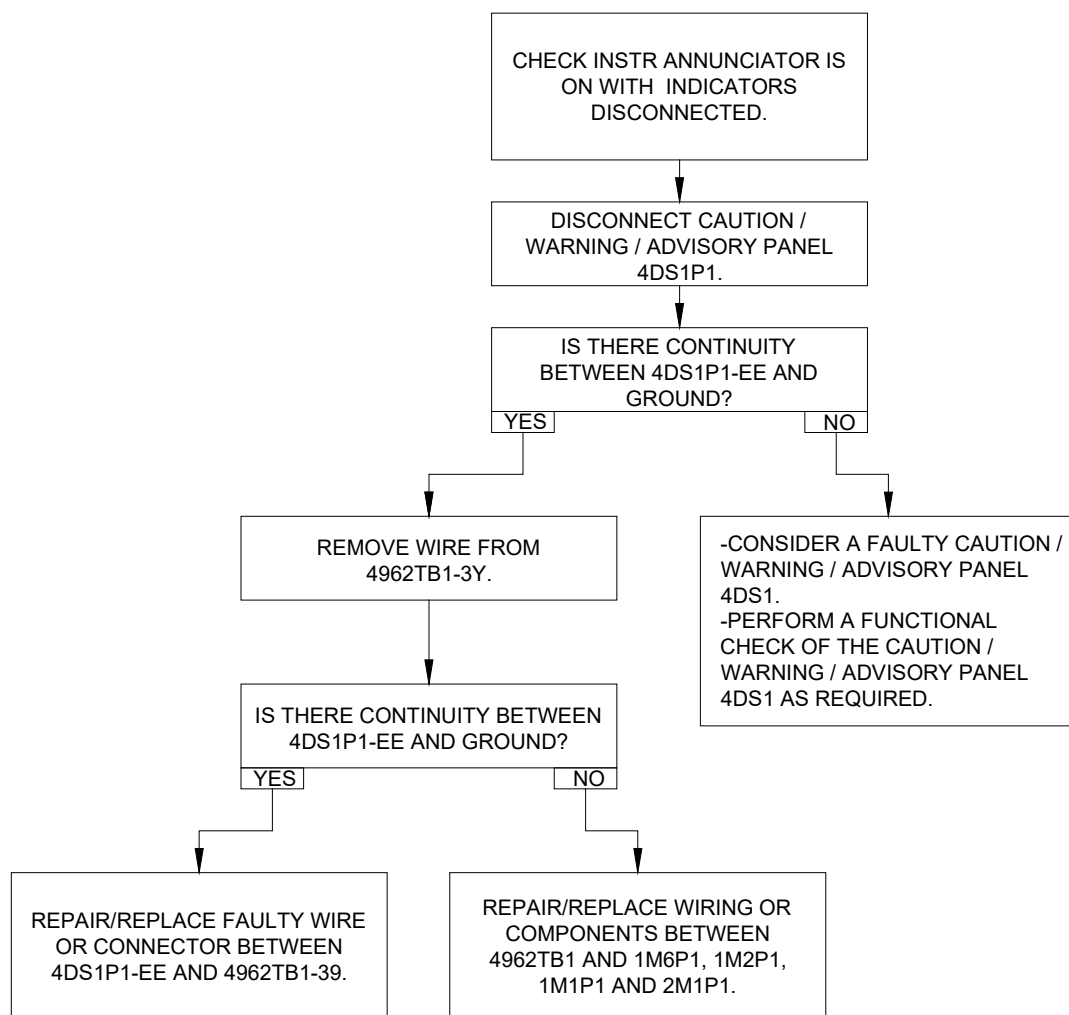

Figure 96-78: Check Instruments (CHECK INSTR) Annunciator Circuit – Trouble No. 1
- If the CHECK INSTR annunciator is on (a ground is supplied to the annunciator), refer to Trouble No. 1 (Figure 96-78)